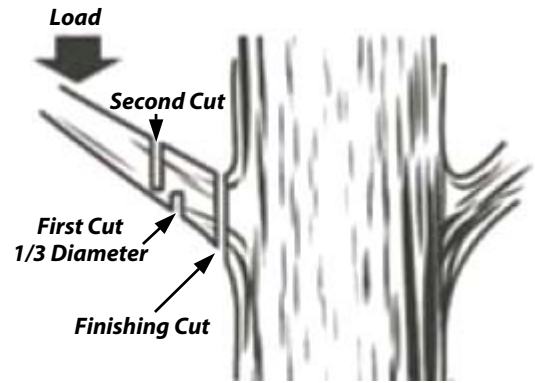

Figure 5
- Under cut the branch 1/3 through for your first cut. Your second cut should over cut to drop the branch off (Figure 5).